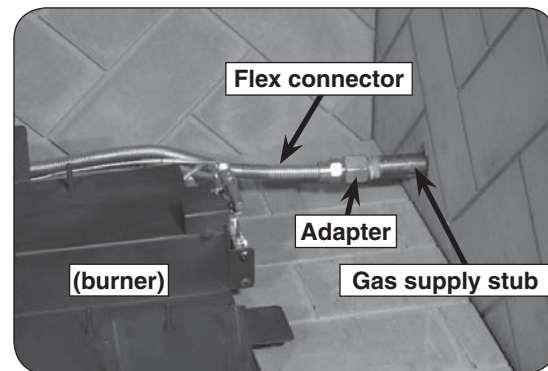

Fig. 19-1 Connect gas supply
2. Locate the gas-supply stub inside the fireplace and remove the cap, if attached (reference Fig. 19-1).
4. **Be sure gas to the fireplace is off.** Remove the adapter that is loosely connected to the flex connector (coming off of the burner system). Attach the adapter to the gas-supply stub using a pipe compound resistant to all gasses. Tighten securely. Then attach the open end of the flex connector to the adapter. Tighten securely. (See Fig. 19-1.)